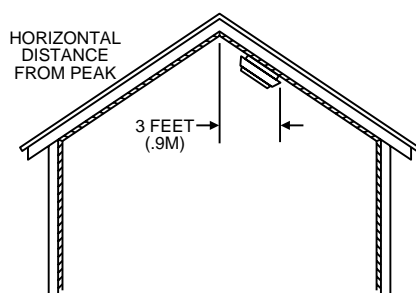

Figure 7. Sloped, peaked, or gabled ceilings
- ❑ In rooms with sloped, peaked, or gabled ceilings, install smoke alarms 3 feet (0.9 meter) measured down on the slant from the highest point of the ceiling (see figure 7).